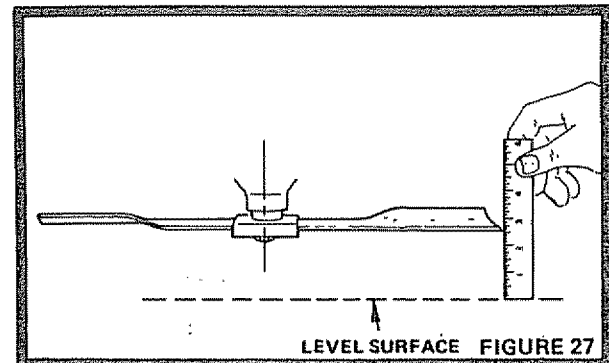

FIGURE 27
3. Measure the height of the OUTER CUTTING TIP of each blade (Fig. 27). Both R.H. and L.H. must be the same distance from level surface within 1/8 of an inch.
1. To obtain the best cutting results, your Mower Housing should be adjusted so the tip of the blades are 3/16" lower at front than at the rear. With R.H. mower blade in line with length of tractor, measure the height of the front tip of blade (Fig. 27). Rotate blade 1/2 turn and measure. The front tip must be approximately 3/16 of an inch lower at front than at rear.